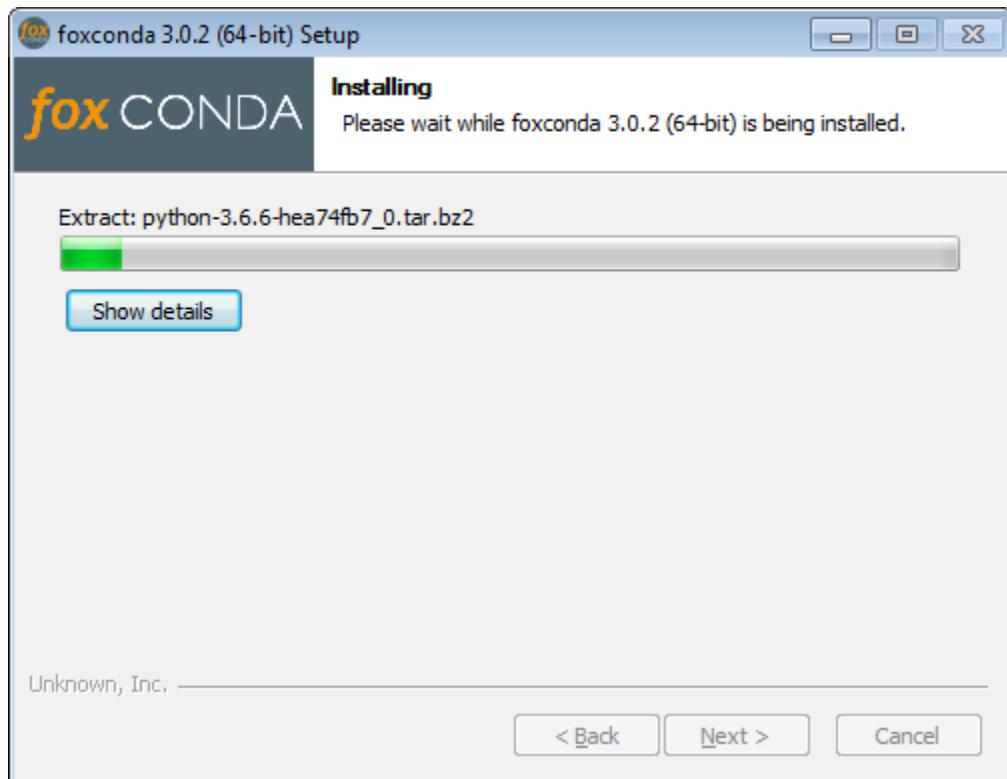

Fig. 9.6: Installation process
6. The installation process which tall take a few minutes. **Fig. 9.6 shows**